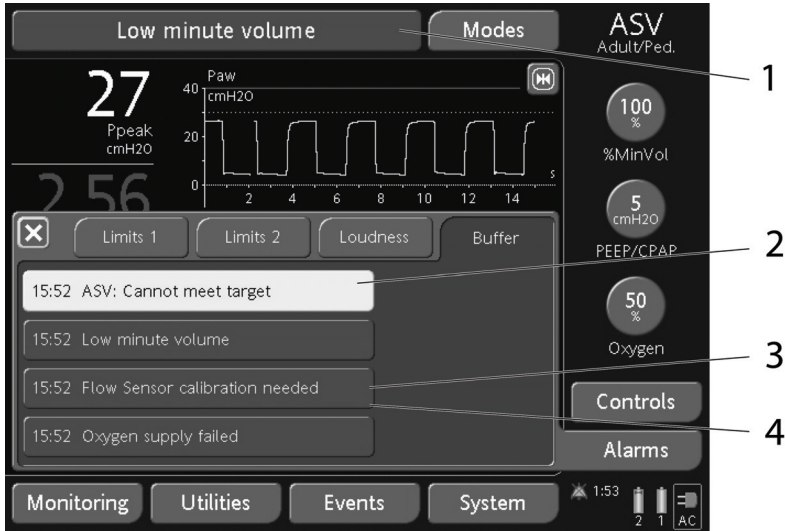

Figure 8-4. Alarm buffer with active alarms
The HAMILTON-C2's alarms notify the operator of problems. These alarm types, including their audiovisual characteristics and required actions, are summarized in Table 8-1. You can view active or inactive alarms, as applicable, in the alarm buffer (Figure 8-4). Information about the alarm is also stored in an event log.
- If there are currently active alarms, the alarm buffer shows the most recent active alarms (Figure 8-4). The associated alarm messages also alternate in the message bar. Active alarms are in boxes with rounded corners.